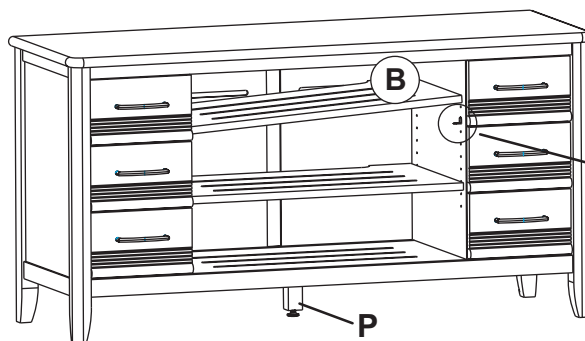

Fig. 3a
3. To move the Adjustable Shelves (B), remove the #6 x 1/2" Undercut Screws (M) and the Shelves (B). Place the Shelf Brackets (L) where you want them to be, replace the shelf and insert the screws. See Figures 3a and 3b.